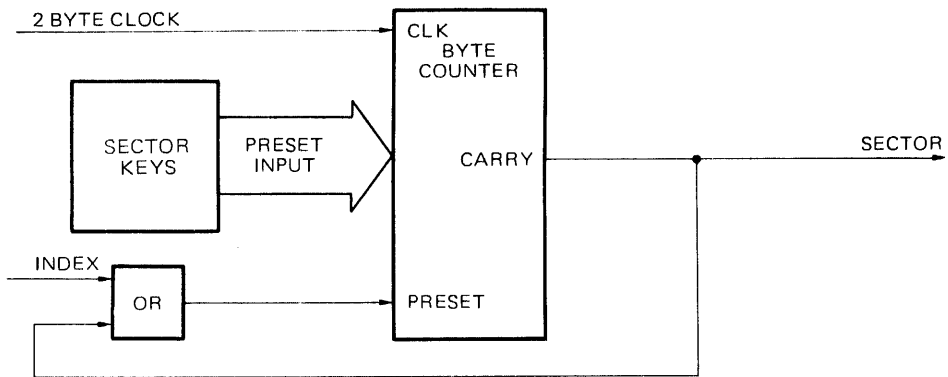
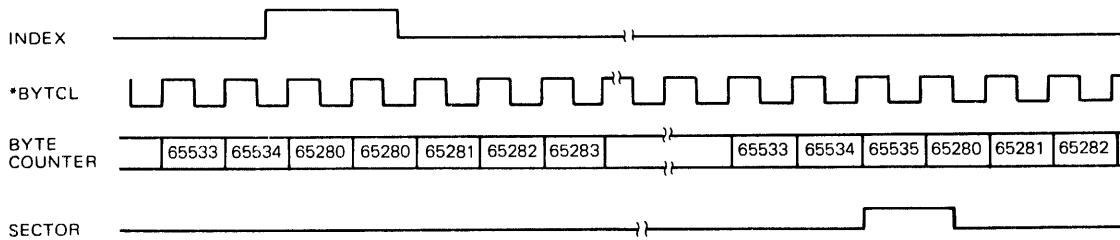

Figure 4.63 Sector generator block diagram
Figure 4.64 Sector generator timing chart
The Index signal (four bytes) from the PLO circuit enables the preset input to the byte counter. An example of 512 byte sector length is described as follows; The value loaded into the byte counter is specified by turning on keys 1 to 7 of SW3 and key 1 of SW4. The binary value of the keys not turned on (SW4 keys two to seven) equals 65,280. The Index signal causes the byte counter to be reset to 65,280. The counter is then clocked by the positive going edge of the 2 Byte Clock (2 BYTCL) signal until it reaches 65,535 (511-byte clocks). Then a carry signal which is used as a new preset enable to the byte counter is issued. The carry signal is applied to next flip-flop and then converted into 24-bit pulse of the Sector signal. The block diagram is shown in Figure 4.63, and the timing chart is shown in Figure 4.64.